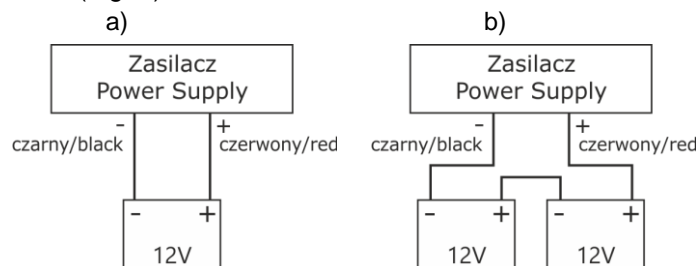

Fig. 4. Connecting batteries depending on voltage version of power supply:
4. Install battery/batteries in a designated area of enclosure. Connect batteries with PSU paying special attention to correct polarity and type of connections (Fig. 4):